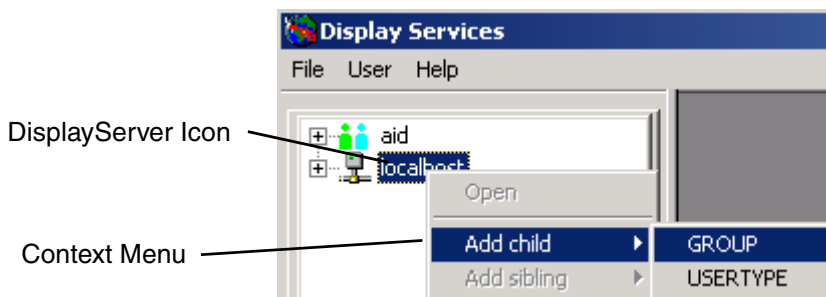

Figure 9. Creating a New Group
1. Select the display server icon in the Object Browser. Then right click on the display server icon, and choose **Add child > GROUP** from the context menu, Figure 9.